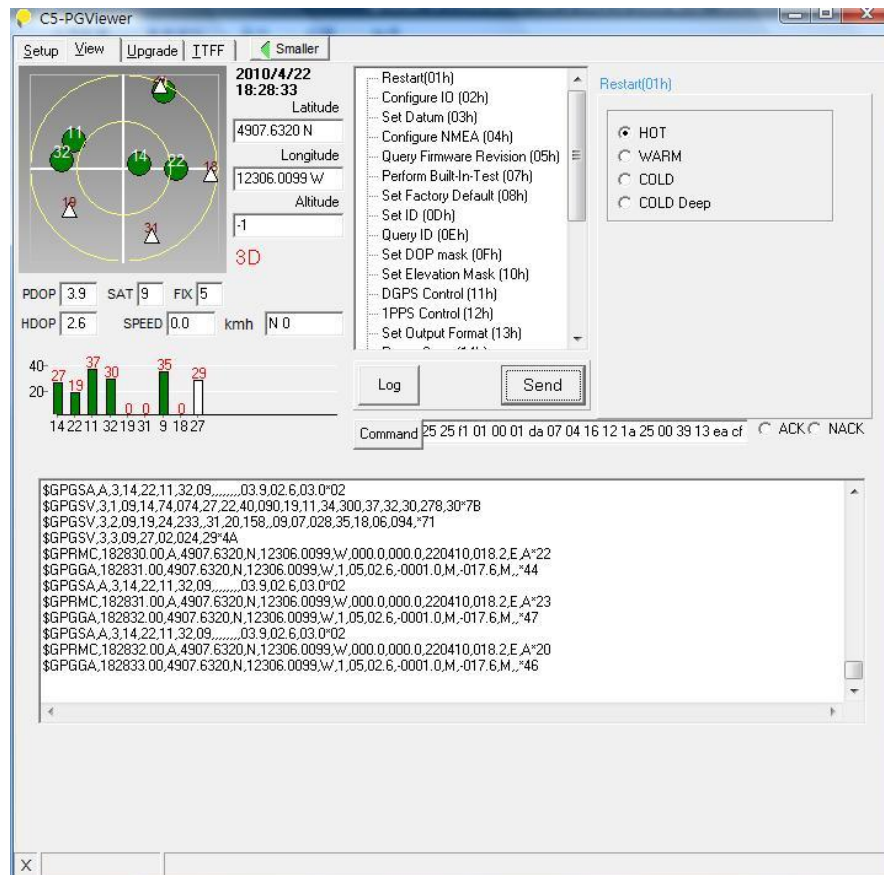

Fig. 15
11. After the SynScan™ GPS mouse is fixed on the GPS satellites, you will see green circles with numbers which represent the GPS satellites currently fixed on, and their signal strength is displayed with green bars. The readouts of Latitude, Longitude, and Altitude are displayed beside the radar chart as shown in Fig. 15.